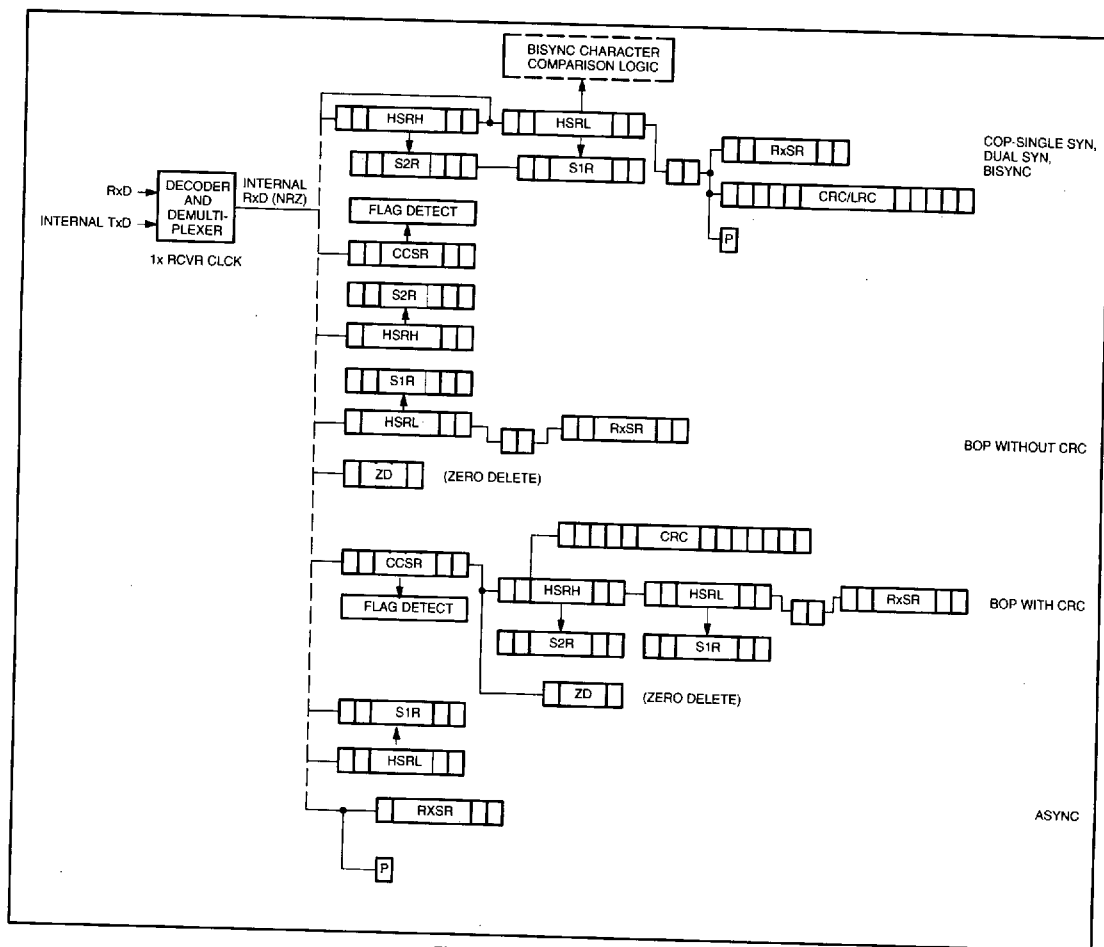

Figure 1. Receiver Data Path
**COP** A SYN pattern was received. Refer to Detailed Operation for definition of SYN patterns. Set one bit time after detection of SYN pattern in HSRH, HSRL. See Figure 1 for receiver data path.
**BOP, LOOP** A FLAG frequency (01111110) was received. Set one bit time after FLAG is detected in CCSR. See Figure 1 for receiver data path.
**BOP** This field should be examined to determine the length of the last character of the I field (character tagged with REOM status bit) if RSR[0] is set to indicate that the length was not equal to the character length specified in RPR[1:0]. This field is negated when a reset receiver or disabled receiver command is issued, or when the first control character for the next frame of data is in HSRL (see Figure 1). Care must be taken to read TRSR[2:0] before these bits are cleared.
**COP** Indicates that a DLE-STX sequence was received and the receiver is operating in BISYNC transparent mode. Set two bit times after detection of STX in HSRL. See Figure 1 for receiver data path. Transparent mode operation is terminated and the bit is negated automatically when one of the terminators for transparent text mode is received (DLE-ETX/ETB/ITB/ENQ).